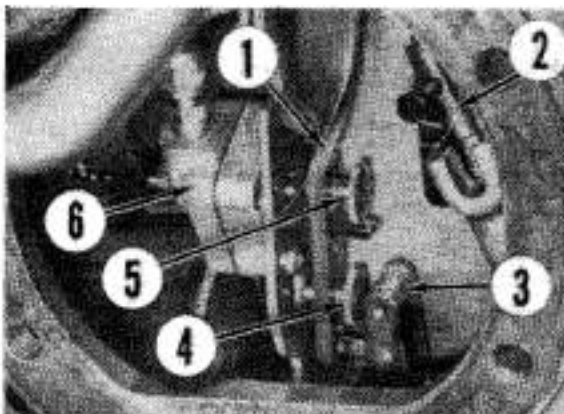

Fig. 181—View of lift housing through opening for response control cover. Refer to text for adjustments.
**195. INSTALLED ADJUSTMENTS.** The following adjustments should be performed with lift cover installed and tractor operational. Accomplish the adjustments in the sequence listed. Remove the response control cover plate from right side. Be sure that oil is maintained at level of lowest threaded mounting hole for response control cover making it necessary to temporarily reinstall the lower cap screw. Be sure that control valve adjusting screw (4—Fig. 181) and roller (3) are correctly installed. If pressure control type, adjusting screw (5) should be threaded into vertical lever (1), but should not contact diaphragm plunger.
**NOTE:** Be careful when positioning wedge and do not dislodge roller (3—Fig. 181) from control lever, or vertical lever (1) from its pivot pin.
When pressure is within limits, turn pressure control adjusting screw (5—Fig. 181) clockwise until vertical lever (1) begins to pulsate, then turn screw counterclockwise until pulsating stops and pressure does not fluctuate more than 700 kPa (100 psi).